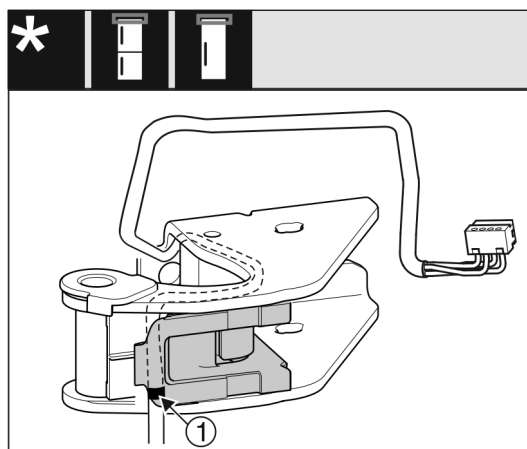

Fig. 28
- ▶ The middle marking must be positioned on the edge of the cable holder Fig. 28 (1).